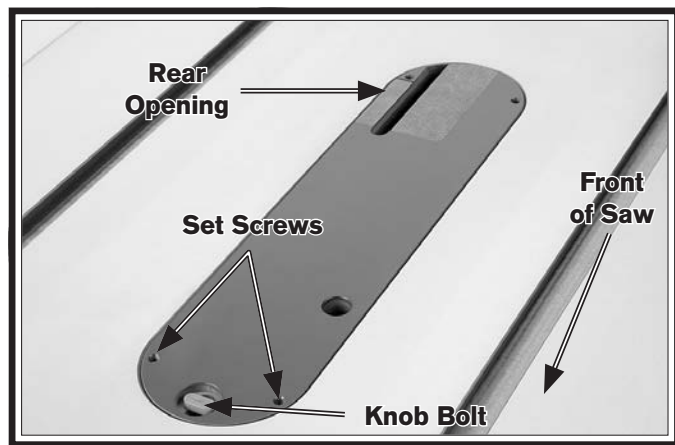

Figure 64. Insert knob in lock position.
3. Install table insert, as shown in **Figure 64**.
— If you do not require your insert to have a zero clearance fit, especially if you need to make a range of compound cuts, you can modify the insert included with this saw. Continue with **Step 7**, then route underside of the blade-cut slot to same width as rear opening (see **Figure 64**).